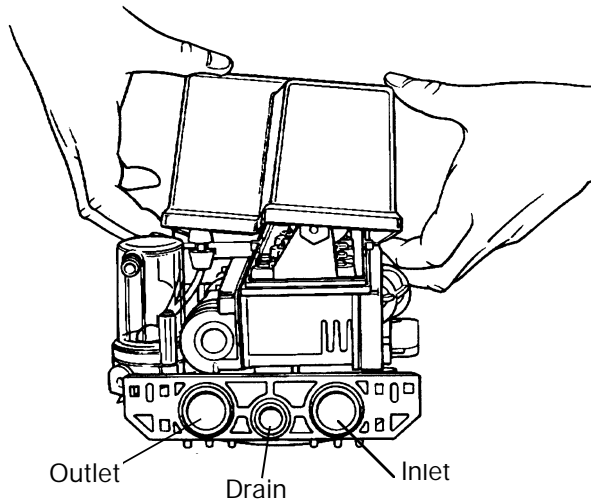
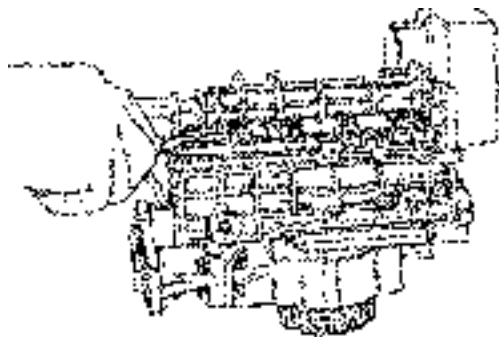

Figure 14
Figure 15
1. Remove control valve cover (Figure 14).
3. Remove cover (Figure14) and with a screwdriver, relieve tank pressure by pushing open valve number 6 (at rear) (Figure15).